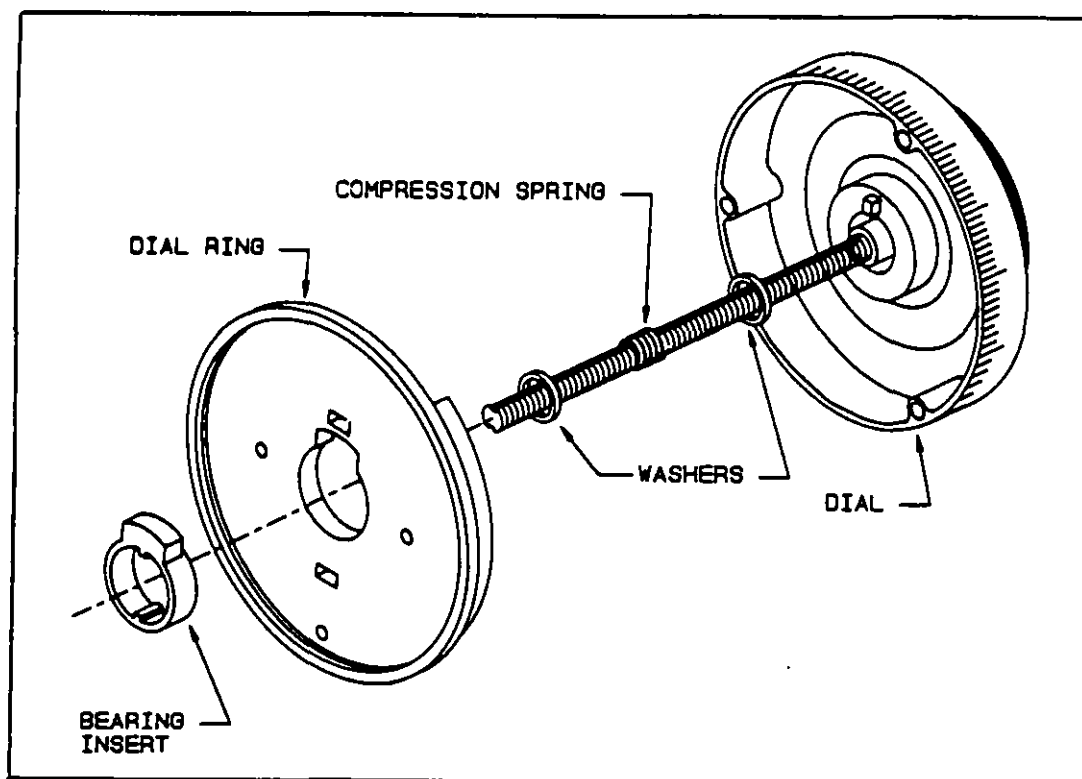

Figure 12
- i) While aligning with hole in the door, lightly fasten dial ring to door using screws, and tighten tube nut (if present on lock). Dial ring opening index should be at 12 o'clock center position. Before installation of the dial ring, press the plastic bearing insert (Figure 12) into the opening in the back of the dial ring. The insert must fit flush with the dial ring.
- o) Place a washer, compression spring, and washer on hub of dial (Figure 12).